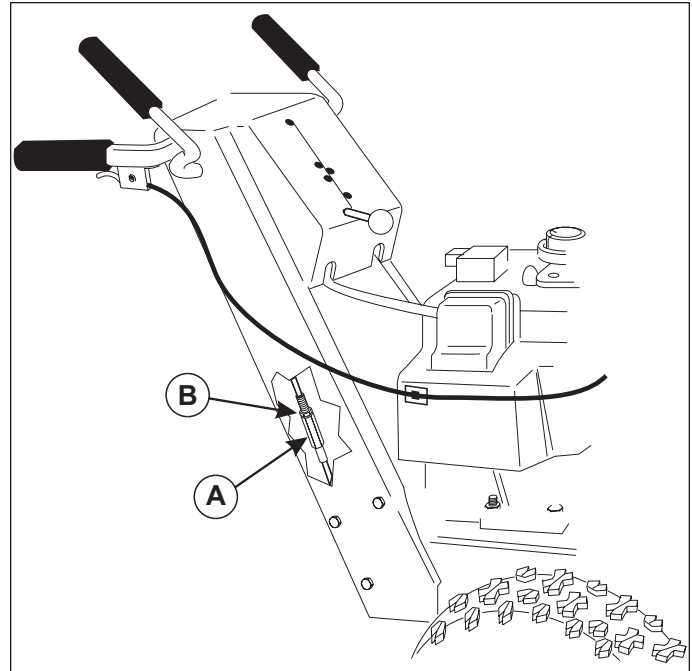

Figure 15. Cable Adjustment
2. Loosen the jam nut (B, Figure 15).
3. Turn the adjustment nut (A) to lengthen or shorten the cable. The cable should be tightened just until all slack is removed from the lever, however it must not engage the Easy Turn™ release without depressing the control lever.